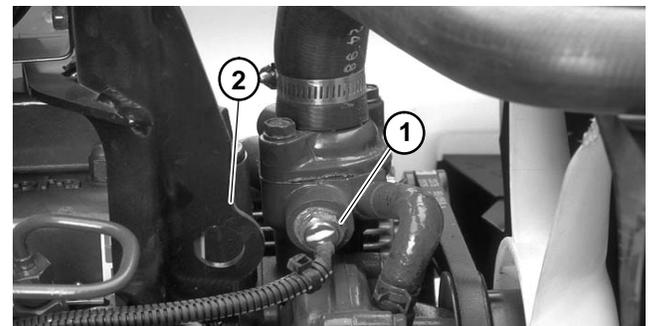

Figure 13
C. High temperature warning switch (Fig. 13).
- D. High temperature warning switch (Fig. 13).